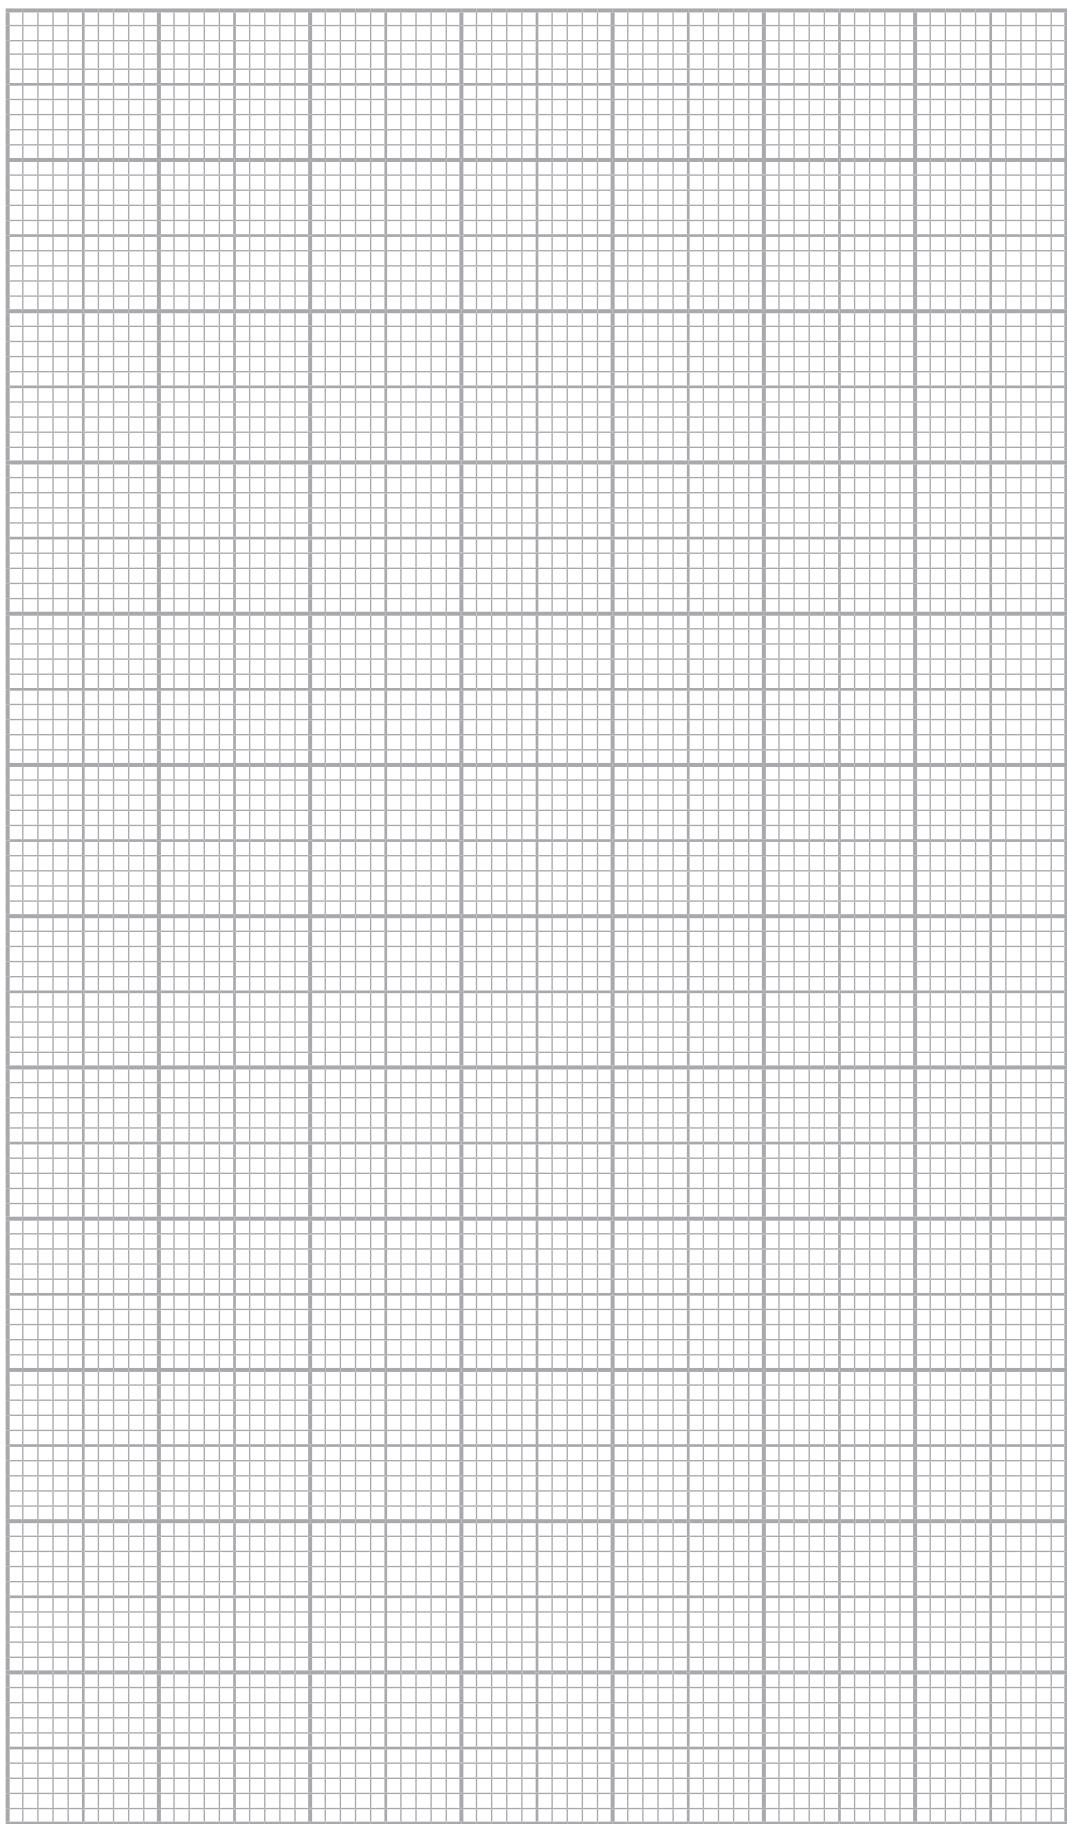

Fig. 2.2
- (c) Plot the graph of $\log_{10} V$ against n on the grid of **Fig. 2.2** and draw a best fit straight line for the points plotted. [5]